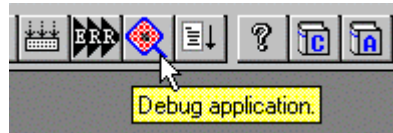

Figure 16 CrossView Pro
1. Press the Debugger (CrossView Pro) button in the desktop toolbar of EDE (shown in Figure 16).